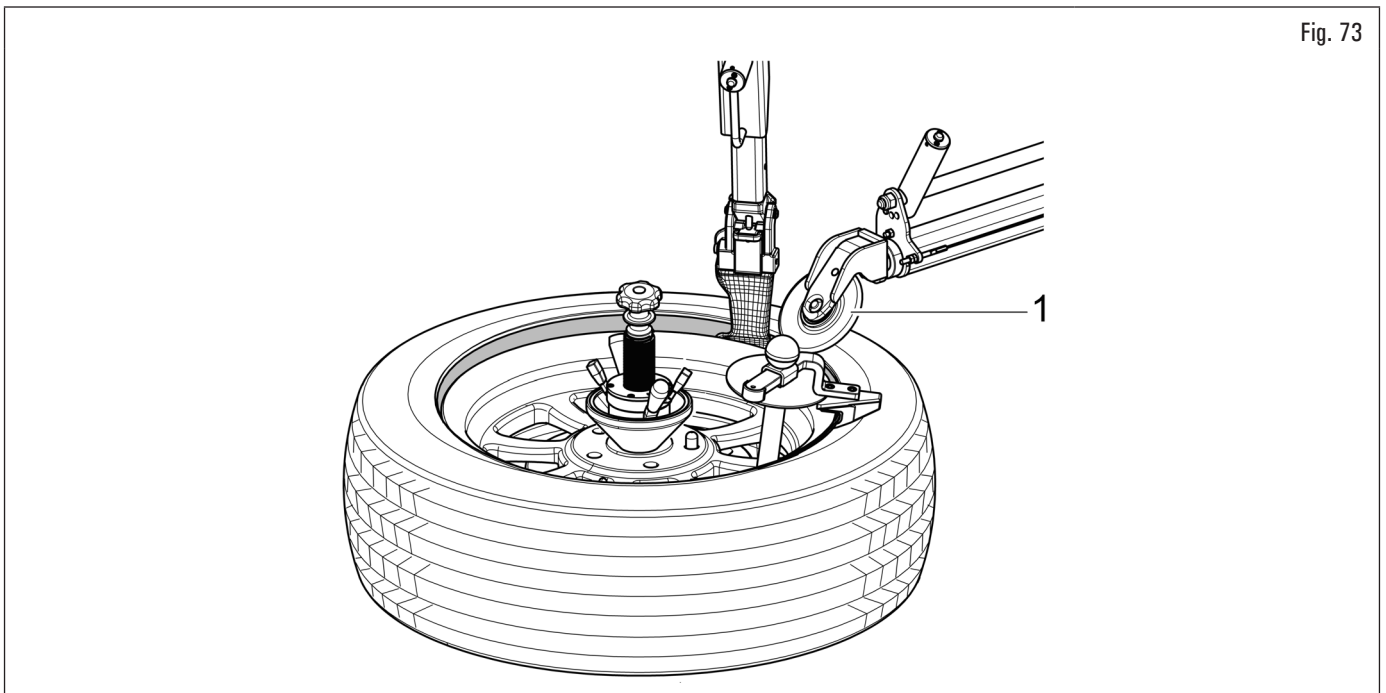

Fig. 73
2. place the upper bead breaker roller (Fig. 73 ref. 1) so that the tyre bead is kept at the same height of the rim drop centre (see Fig. 73);